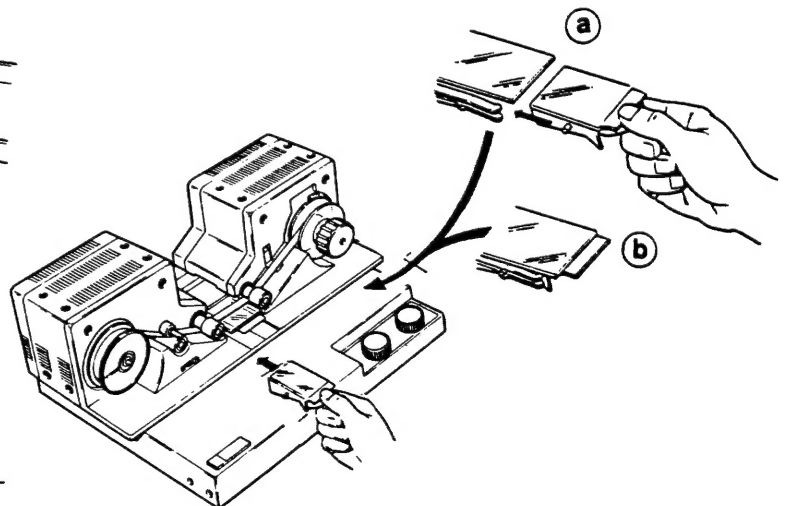

Figure 2-2E
7. Install the Glass Flat Assembly (Figure 2-2E).